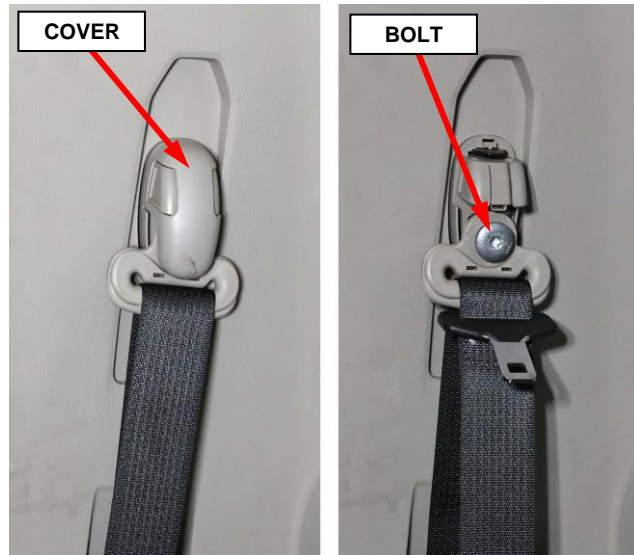

Figure 48 – Seat Belt Turning Loop
8. On the B-pillar, separate the seatbelt turning loop cover then remove the turning loop bolt (Figure 48).